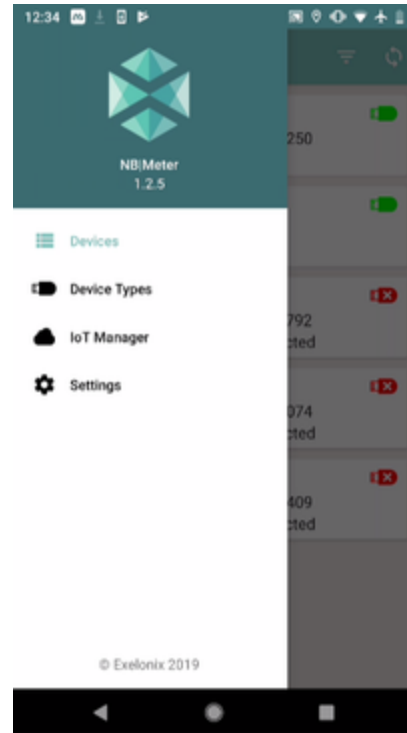

Figure 2 : Settings Menu
After clicking on the settings menu (1) multiple options to proceed are available as shown in **figure 2**.